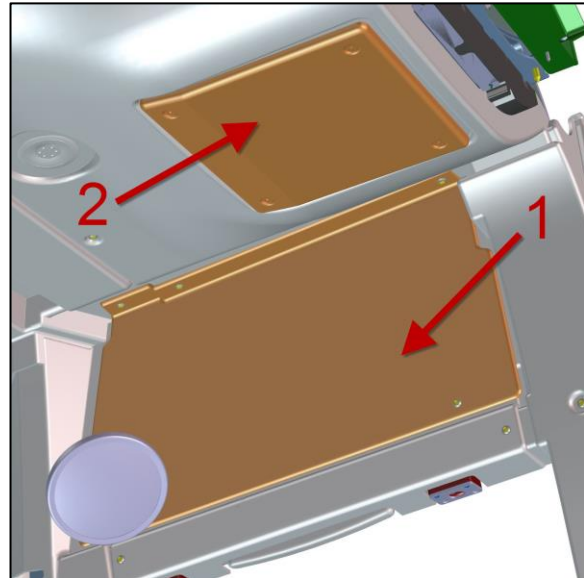

Figure 13
22. Install closing cap (item 1, Figure 13)
23. Install front RH roof access panel (item 2, Figure 13).